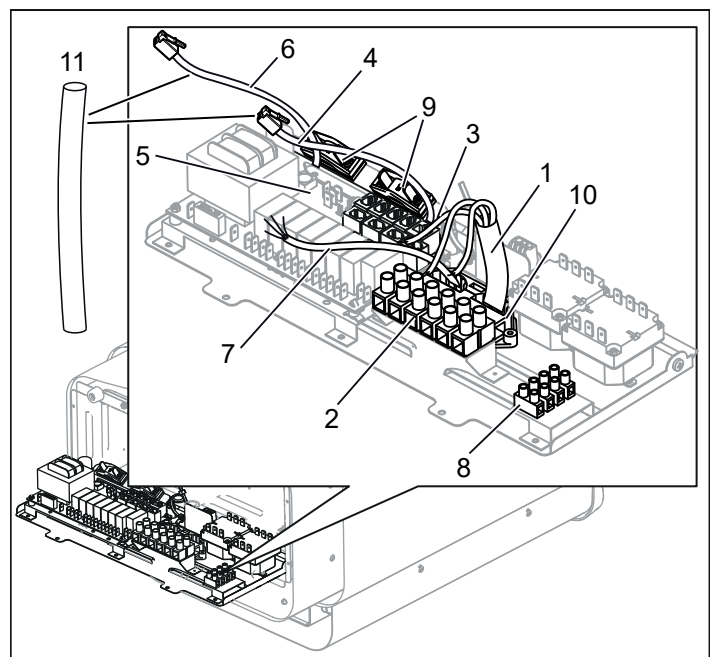
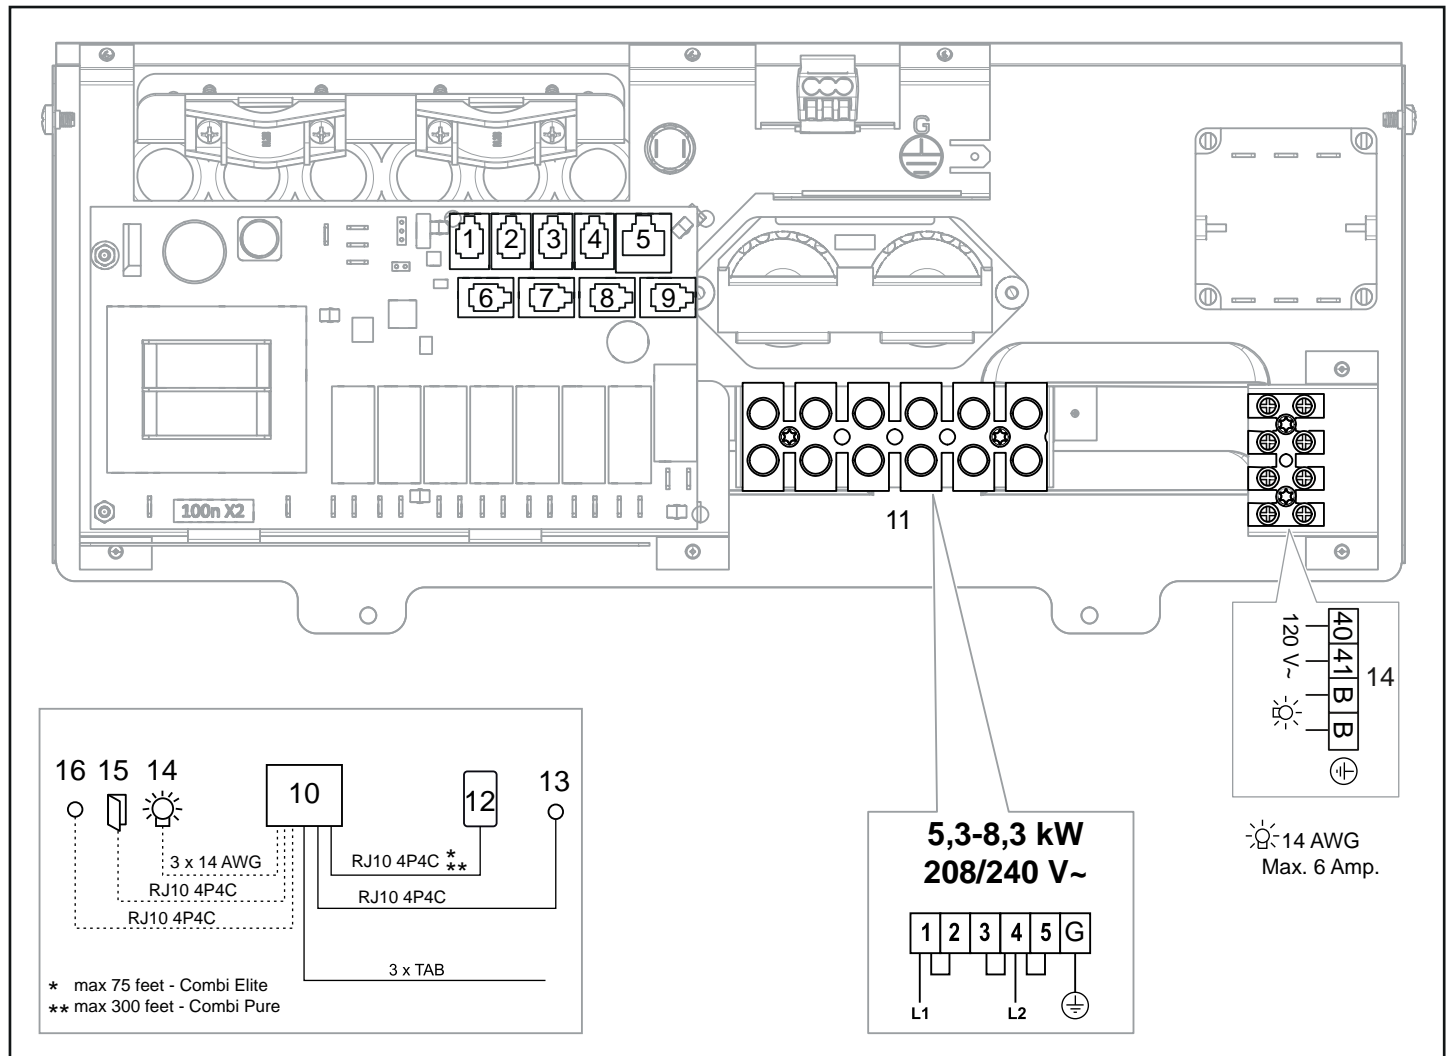

Figure 11: Circuit board
Figure 19: Wiring diagram
4. Connect the main supply electrical cable (1) to the terminal (2) (see Figure 11) according to the wiring diagram (see the Connection/wiring diagram section, page 9).
5. Run the cables for the control panel and the temperature sensor through the cable grommets (3). Connect the control panel cable (4) to one of the four RS485 contacts (positions 6-9) (see Figure 11) according to the wiring diagram (see the Connection/wiring diagram section, page 9 fig.19).
6. Connect the humidity- and temperature sensors cable (6) to one of the four RS485 contacts (positions 6-9) (5) according to the wiring diagram (see the Connection/wiring diagram section, page 9 fig. 19).
7. Connect the light cable (if relevant) (7), see Figure 11, to the terminal (8) according to the wiring diagram Figure 19.
Contact Tylö Customer Service before connecting to voltages or numbers of phases that are not listed in the wiring diagram Figure 19.
1. Modular plug (RJ10, see Fig 19)